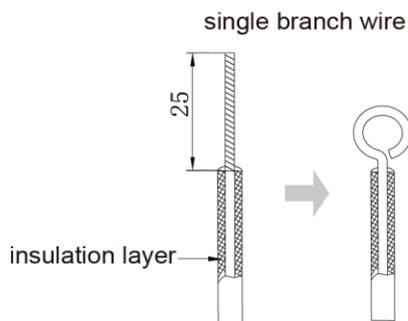

Fig 5.1.1
(1)The connection of wire (as shown in fig 5.1.1)